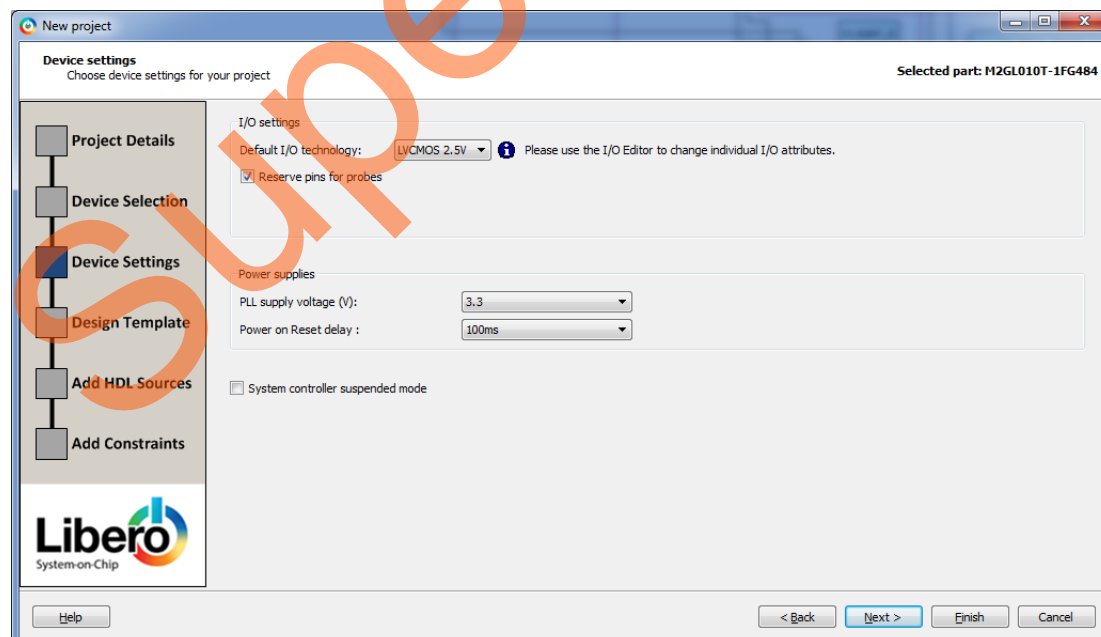

Figure 18 • New Project Window - Device Settings
5. In the **Device Settings** window, enter the following details, as shown in Figure 18:
- PLL supply voltage (V): 3.3 V